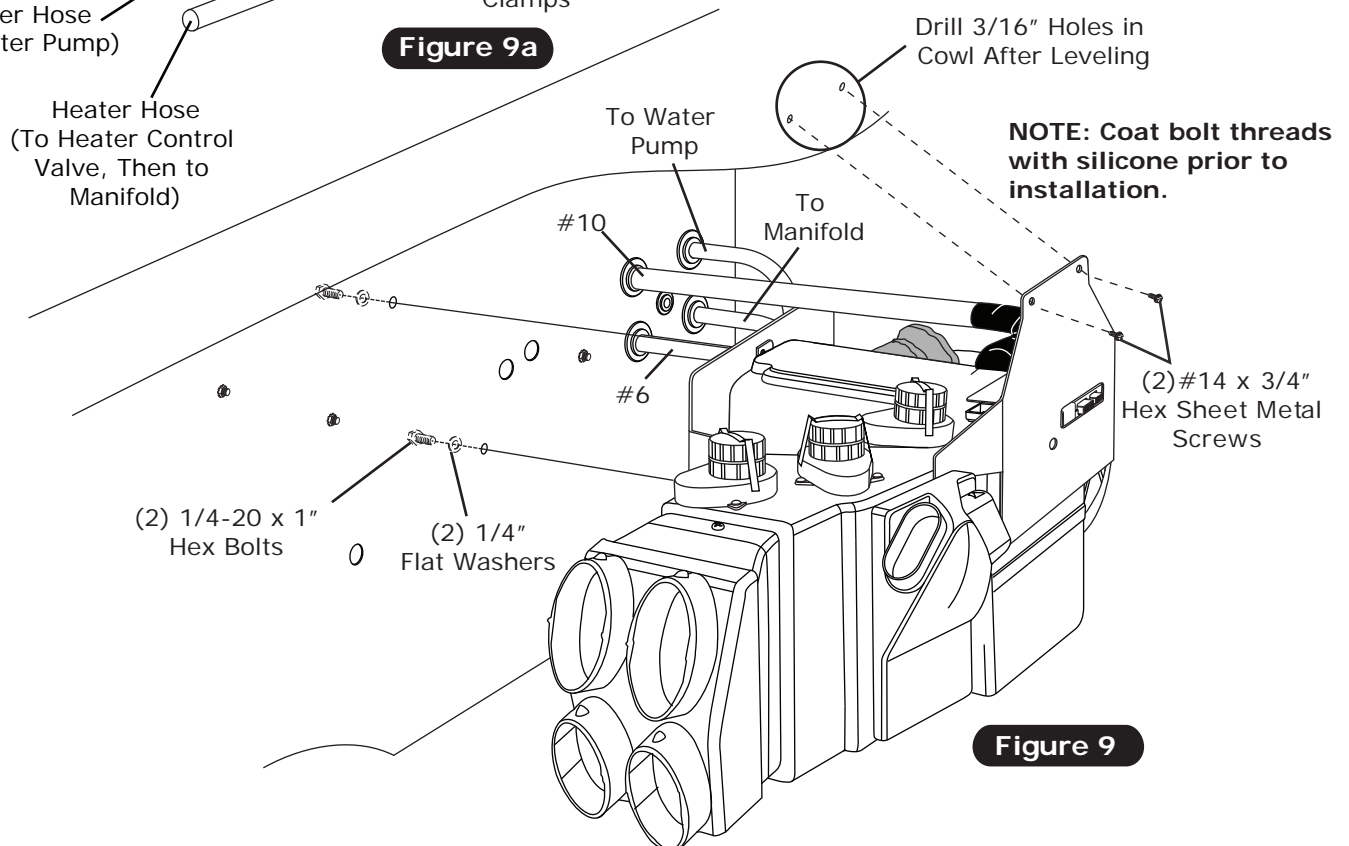

Figure 9
2. Lift evaporator unit up under the dashboard. Secure loosely to firewall using (2) 1/4-20 x 1" hex bolts and flat washers (See Figure 9, below). **NOTE:** To ensure proper drainage, it is very important that the evaporator is level, both left-right and fore-aft. Check for level on the flat portions of the case around the drain.
3. Using front evaporator bracket as a guide, mark and drill (2) 3/16" holes in cowl (See Figure 9, below).
4. Using (2) #14 x 3/4" hex sheet metal screws, secure the front evaporator mounting bracket to the cowl (See Figure 9, below).